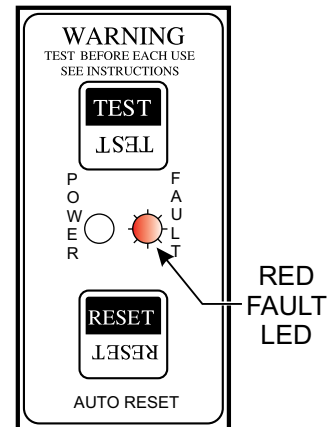

Figure 83. GFCI Sensing Module Red Fault LED Flashing
2. Verify that the **RED** fault LED on the GFCI sensing module starts **flashing** (Figure 83).